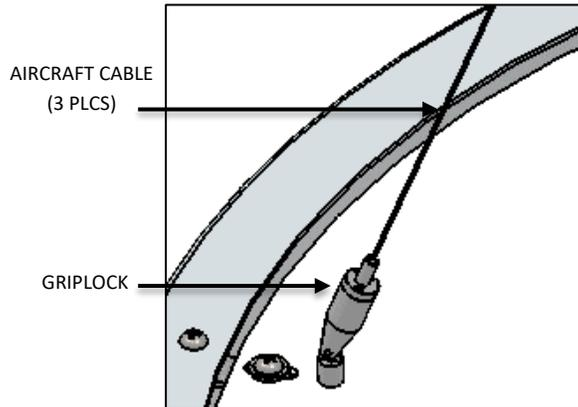

FIG. 14 – AIRCRAFT CABLE INSTALLATION
5. Raise the CRIQUE fixture with multiple people and feed ALL THREE AIRCRAFT CABLE into the GRIPLOCK, press the plunger of the GRIPLOCK and insert the AIRCRAFT CABLE at least 1.75" into the body of the GRIPLOCK as shown in FIG. 14.